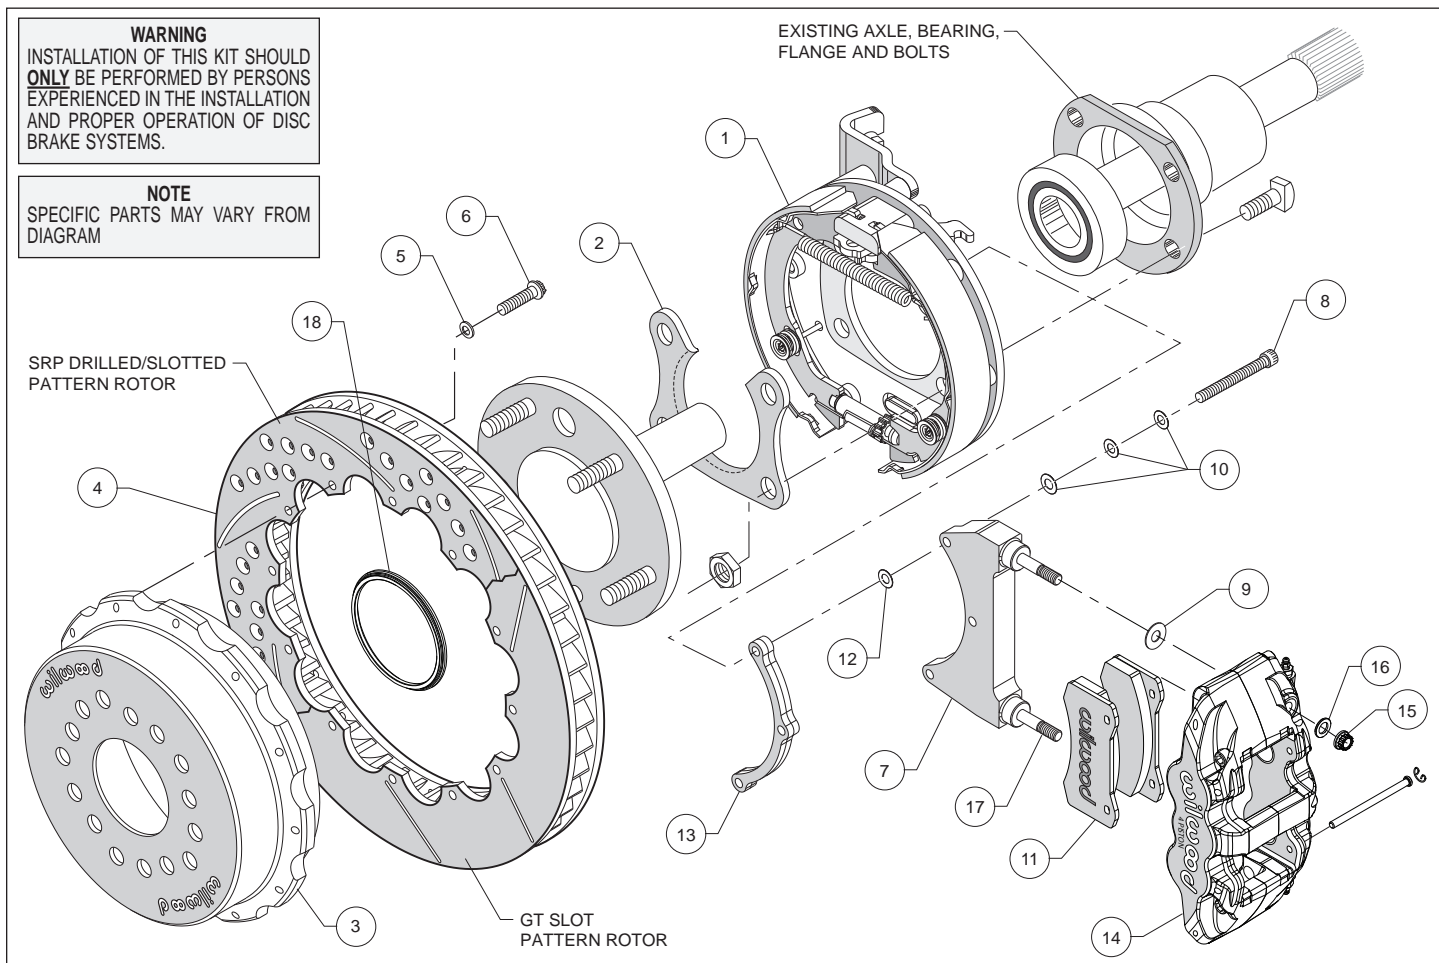

Figure 1. Typical Installation Configuration
- Orient the bracket assembly (1) as shown in Figure 1, and slide it onto the axle flange. Ensure that the bracket assembly backing plate fits flush against the housing flange. Insert the axle shaft into the axle housing.
- Install the bearing retainer (2) with the opening pointing upward and the lip facing inward (toward the bearing), as shown in Figures 1 and 4. Secure using the Original Equipment Manufacturer (OEM) bolts and nuts, Figure 1. Apply red *Loctite*® 271 to the OEM bolt threads and torque to OEM specifications.
- Slide the rotor registration adapter (18) onto the axle register on the axle flange with the smaller O.D. facing toward the rotor/hat (3). Align the correct hole pattern in the hat with the stud pattern on the axle flange. **NOTE:** Some OEM and aftermarket axles come with stud sizes larger than 0.50" diameter. Verify stud size and have a qualified machine shop drill the hats to the correct size, if necessary. Slide the hat/rotor assembly (3 and 4) over the wheel studs covering the bracket kit assembly (1) and against the axle flange face. Check to be sure the hat seats squarely against the hub. Install three lug nuts (finger tighten) to keep the rotor/hat assembly in place while continuing with the installation.
- NOTE:** Please reference the caution statement at the beginning of the assembly instructions. The caliper mounting bracket assembly (7) should be installed first with clean, dry threads on the mounting bolts (8). Install the bracket from the rear side of the bracket kit assembly (1) by sliding bolt (8) through three flat washers (10), bracket (7), shim washer (12) and finally through the spacer (13), see Figure 1. **NOTE:** End of bolt should not exceed inside face of insert. The bracket must tighten squarely against the back side of the bracket kit assembly (1). Inspect for interference from casting irregularities, machining ridges, burrs, etc. Use one thin shim (12) between the bracket (7) and spacer (13) during initial trial fitting.
- Lubricate caliper mounting studs and nuts with lightweight oil. Install one shim (9) over each pre-installed stud (17) on the radial mount bracket (7). Slide the caliper (14) in place over the studs and rotor, then install the washer (16) and lock nut (15) to hold the caliper in place. The caliper bleed screws should be pointing up. Snug the lock nuts (15) and check that the rotor (4) is centered in the caliper (14). Add or subtract .015" shims (12) as necessary between the caliper mounting bracket (7) and the spacer (13) to center the caliper (9).
- Remove the two pad retaining pins from the caliper (14) by carefully popping out the pin retaining clips and sliding out the pins. Insert the brake pads (11) into the caliper from the bottom, Figure 1. With the friction material facing the rotor, secure the brake pads in place with the pad retaining pins and clips. Reinstall the caliper onto the caliper mounting bracket and temporarily tighten the lock nuts. Check that the top of the brake pad is flush with the outside diameter of the rotor. If not, adjust by adding or subtracting shims (9) between the caliper and the bracket.
- Adjust the parking brake shoes outward (using a drum shoe adjustment tool available at your local auto parts store) while spinning the hat (3) until a slight drag is felt against the hat/drum. Remove the lug nuts that were holding the hat/rotor in place. Install the wheel and lug nuts. Check to see that the wheel rotates freely without interference.
- Once all clearances have been checked, remove the wheel, caliper, hat/rotor from the bracket kit assembly (1). Secure the caliper mounting bracket (7) to the bracket kit assembly (1) using red *Loctite*[®] 271. Torque bolts (8) to 180 in-lb. Reinstall the hat/rotor assembly and again use lug nuts to hold it in place. Reinstall the caliper, torque the caliper nuts (15) to 47 ft-lb.
- NOTE:** Clevis and cable kits which attach to the parking brake assembly are not included in the Wilwood parking brake kit. Wilwood offers a generic style parking brake cable kit, P/N 330-9371 for this application which can be ordered separately from your local Wilwood dealer or by calling Wilwood customer service at (805) 388-1188.